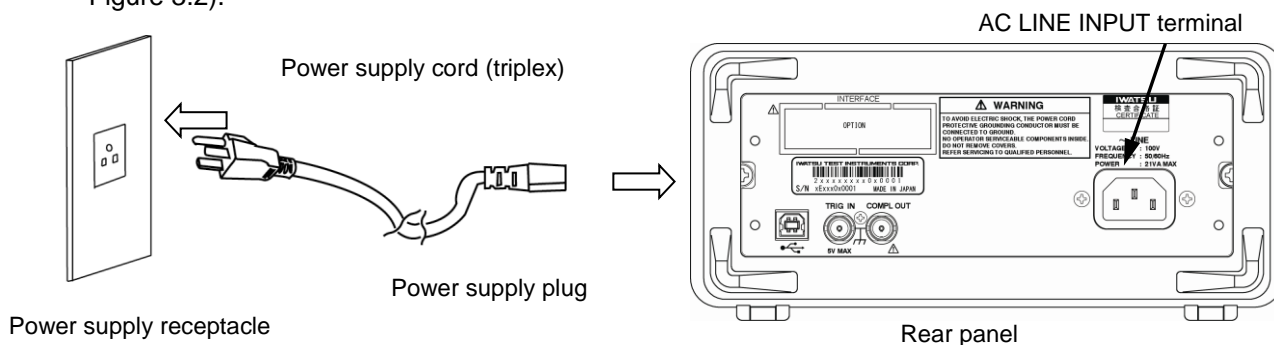

Figure 3.2 Connection of power cord
- ① Check that POWER switch on the lower left of the front panel is OFF (● state: switch is convex).
- ② Insert the plug of the attached power supply cord into the AC LINE INPUT terminal on the rear panel (see Figure 3.2).